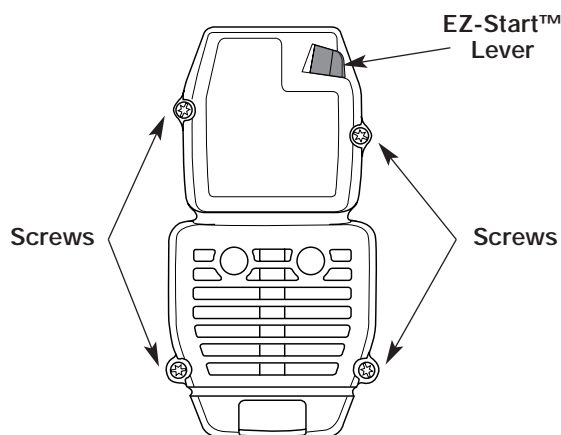

Figure 26
1. Remove the four (4) screws securing the air filter/muffler cover. See Figure 26. Use a flat blade or T20 Torx bit screwdriver.
2. Insert the four (4) screws into the holes in the air filter/muffler cover and tighten. See Figure 26.